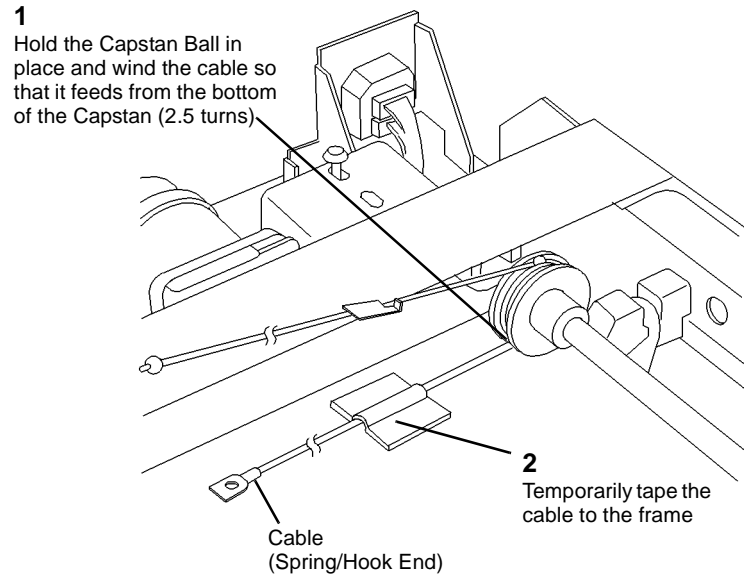

Figure 5 Preparing the Spring/Hook End
b. Prepare the spring/hook end for installation (Figure 5).